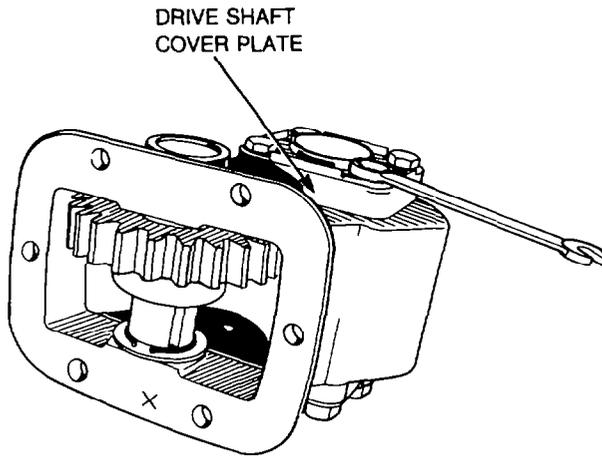

Figure 188 — Welsh Plug — Location
- d. Remove a welsh plug from one end of the idler shaft (see Fig. 188).